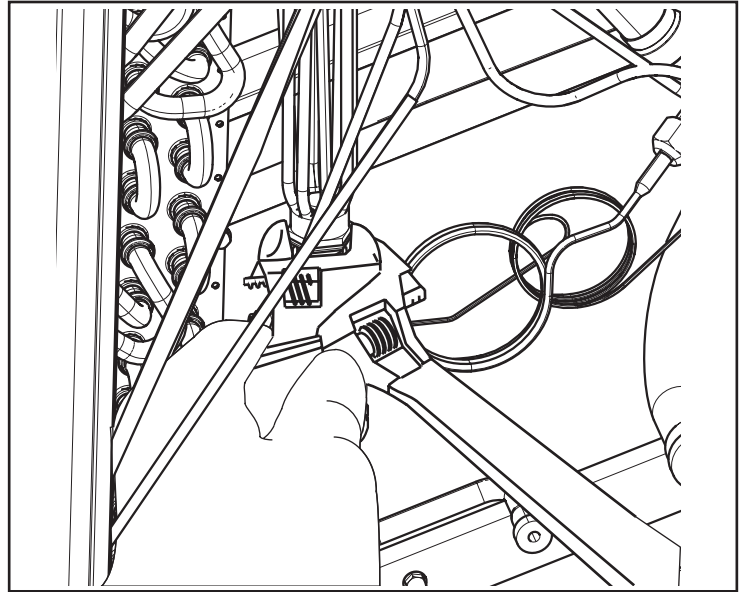

Figure 28 – Remove TXV
8. Using two adjustable wrenches, loosen and remove the TXV flow control assembly at the mechanical fitting as shown in Figure 28. Keep this assembly.